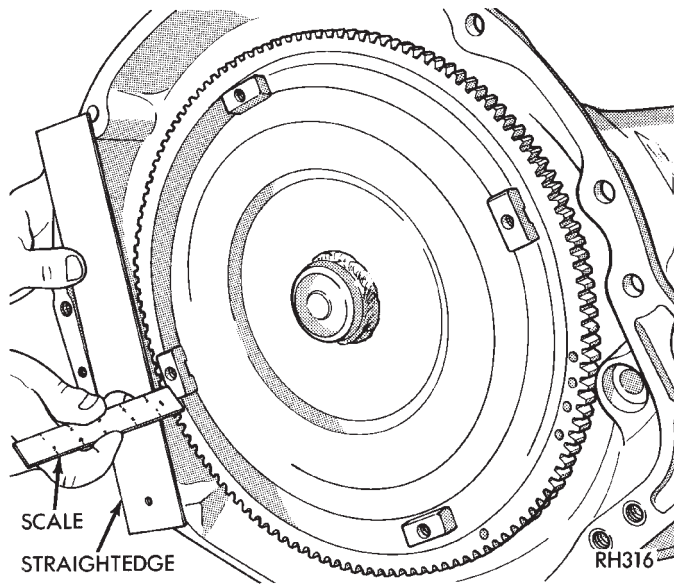

Fig. 23 Checking Torque Converter Seating—Typical
(3) Align torque converter to oil pump seal opening.
(4) Insert torque converter hub into oil pump.
(5) While pushing torque converter inward, rotate converter until converter is fully seated in the oil pump gears.
(6) Check converter seating with a scale and straightedge (Fig. 23). Surface of converter lugs should be 1/2 in. to rear of straightedge when converter is fully seated.
(7) If necessary, temporarily secure converter with C-clamp attached to the converter housing.
(8) Install the transmission in the vehicle.
(9) Fill the transmission with the recommended fluid.